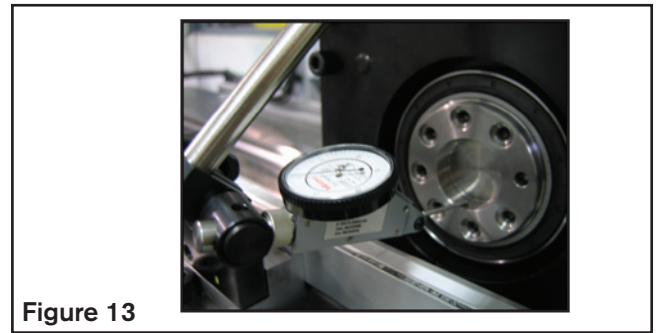

Figure 13
3. Position the contact point of the indicator at bottom dead center of the pilot bore as shown in Figure 13. Rotate slowly for a minimum of one complete turn and note the amount of total variance in one rotation.